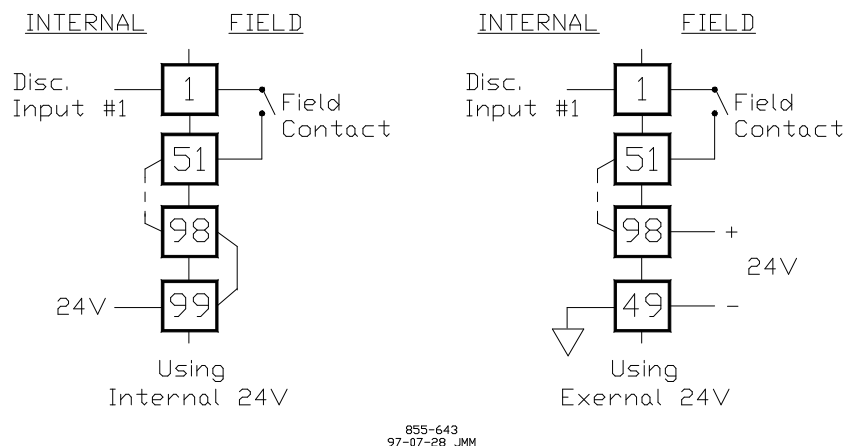

Figure 7-4. Discrete Input Interface Wiring to a 24 Vdc 48/24 Discrete FTM
Each MicroNet Discrete I/O Smart-Plus module accepts 48 contact inputs. The 48/24 Discrete FTM may supply contact wetting voltage. Optionally, an external 18–32 Vdc power source. If the 24 Vdc internal power source is used for contact wetting, a jumper is required between FTM terminals 98 and 99. If an external power source is used for contact wetting, the external source common must be connected to the FTM's discrete input common, terminal 49. The FTM provides a common cage-clamp terminal connection for customer field wiring. Figure 7-4 illustrates different discrete input wiring configurations based on the input voltage.
- 24 Vdc FTM only—If the internal 24 Vdc is used, a jumper must be added to tie the internal 24 Vdc to the bussed power terminal blocks (see Figure 7-4).
- 24 Vdc FTM only—If an external 24 Vdc is used, the common for the external 24 Vdc must be tied to the discrete input common (see Figure 7-4). Power for contacts must be supplied by the control's power supplies, or the external power supply outputs must be rated to Class II at 30 Vdc or less and outputs must be fused with appropriately sized fuses (a maximum current rating of  $100 \div V$ , where  $V$  is the supply's rated voltage or 5 A, whichever is less).